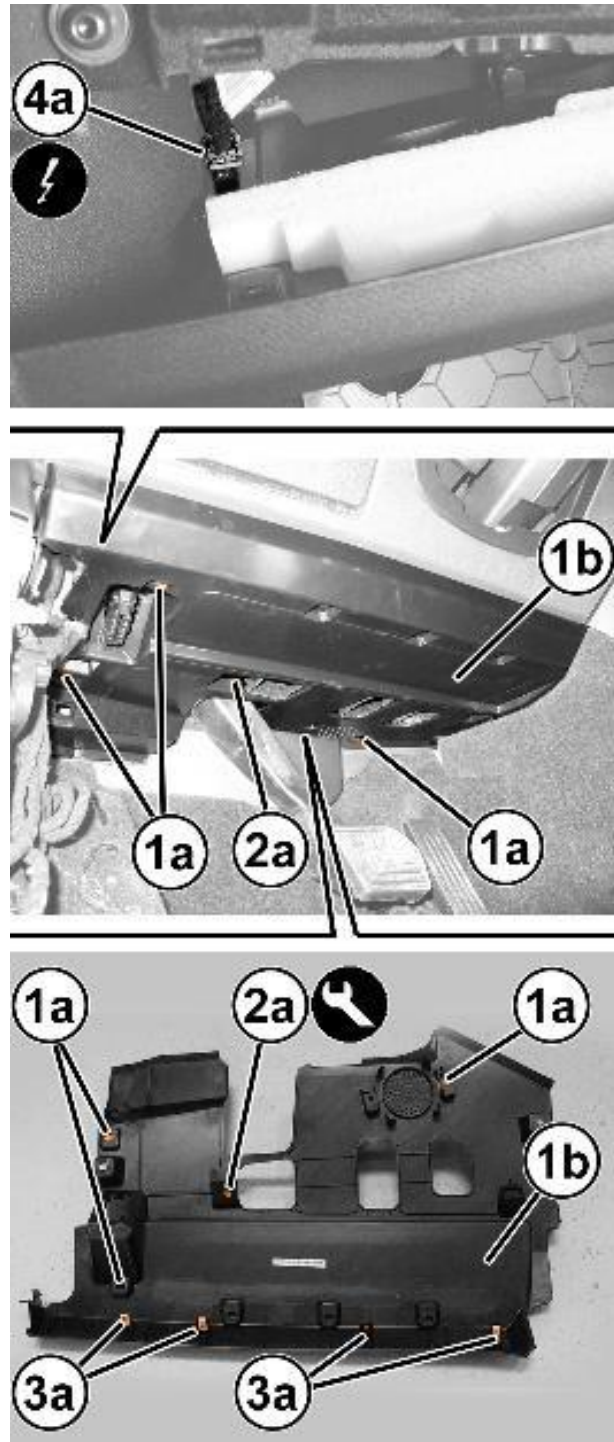

Figure 39 – Bottom Trim
20. Remove the screws from the housings (1a) of the bottom trim (1b) (Figure 39).
21. Release the retaining button from the housing (2a), using the special tool Trim Stick C-4829A (1823015000) (Figure 39).
22. Pull down the bottom trim (1b) by releasing the inner retainers (3a) (Figure 39).
23. Disconnect the electrical connection (4a) for the courtesy lights on the bottom trim (Figure 39).